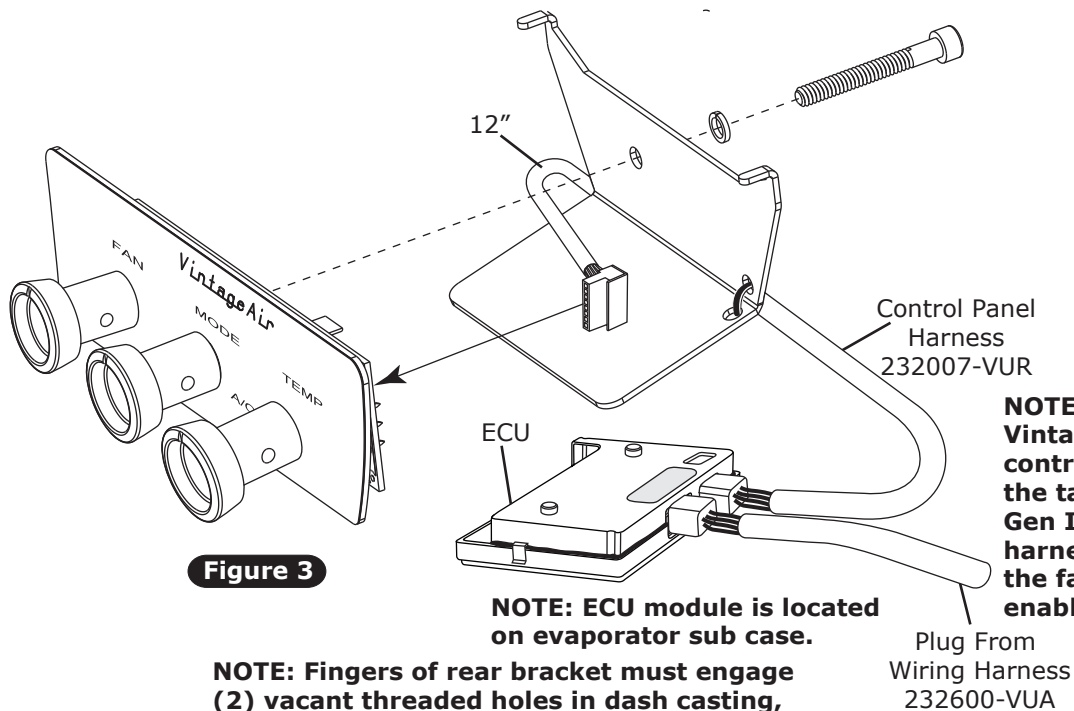

Figure 3
1. Tie wrap the control panel harness to the control panel rear bracket, keeping the control panel connector 12" from the tie wrap (See Figure 3, below).
2. Locate the (2) vacant threaded holes in the dash casting, set back along the top edge of the control panel opening. Place the control panel rear bracket behind the dash, and insert the fingers of the rear bracket into the threaded dash holes. Holding the bracket in this position, feed the control panel connector out through the control panel opening in the dash, and plug the connector into the PC board on the back side of the control panel as shown in Figure 3, below.
3. Feed the control panel harness slack back through the dash opening. With a 5/32" Allen wrench driver bit, hand tighten the supplied bolt and washer to secure the rear bracket to the control panel (See Figures 3 & 4, below).
4. Plug the opposite end of the control panel harness into the ECU as shown in Figure 3, below.